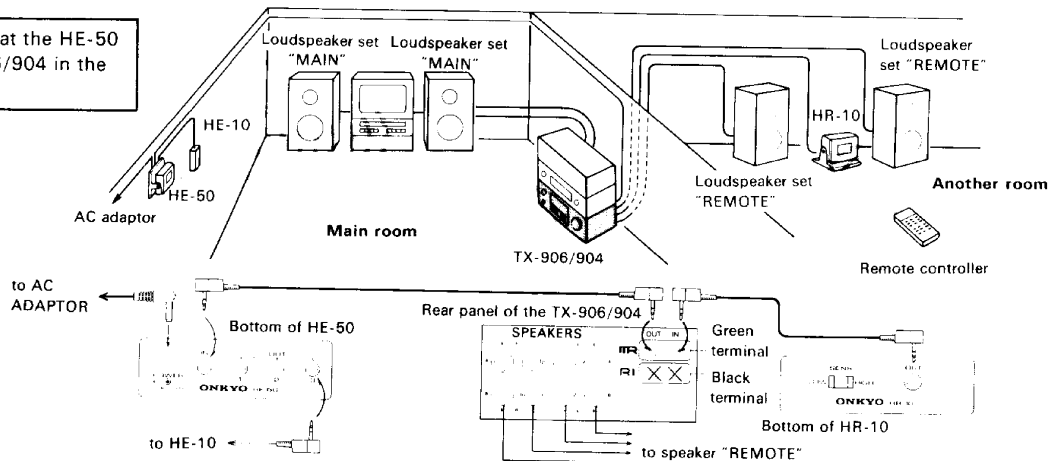

Fig. 3
- A connection example using the HR-10 (option) and HE-50 (AC) (Option) to control components in the main room from another room is shown in Fig. 3. If all the components can not be controlled by the HE-50 (AC) alone because they are installed at various places in the main room, use the remote emitter head HE-10 (option). In this case, if components possess infrared remote control feature, they can be controlled even if they are not ONKYO products.